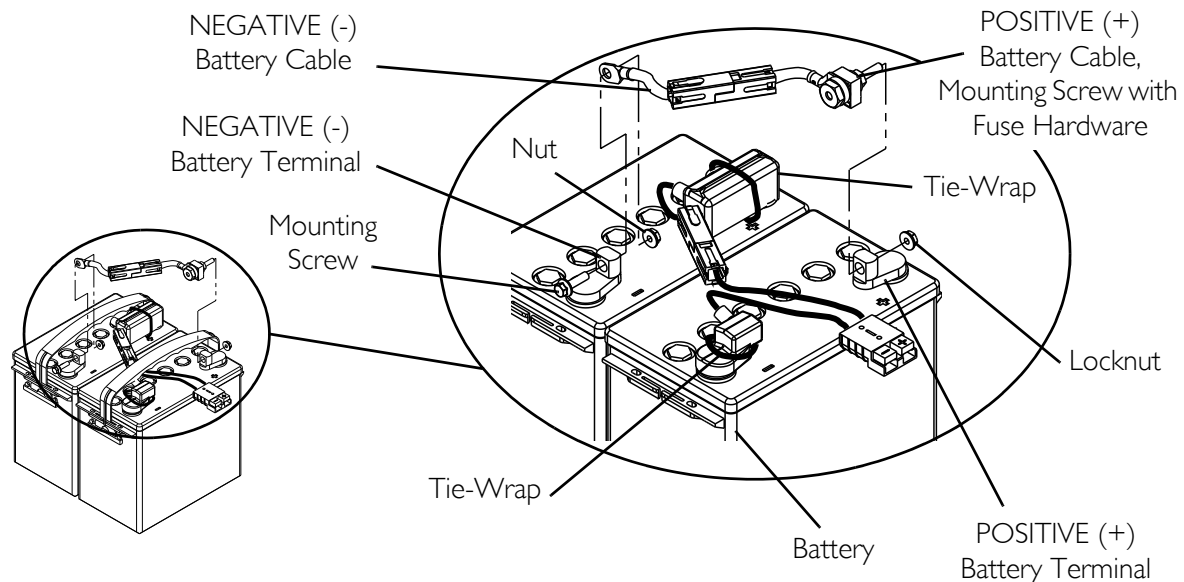

FIGURE 9.3 Connecting/Disconnecting the Battery Wiring Harness
When connecting the battery cables to the battery(ies), the battery cable(s) **MUST** be connected to the battery terminal(s)/post(s) as shown in **FIGURE 9.3** otherwise damage to the battery may result.
NOTE: For this procedure, refer to FIGURE 9.3 on page 61.
3. Using the mounting screws and nuts, secure the NEGATIVE (-) BLACK battery cable to NEGATIVE (-) battery terminal/post as shown in FIGURE 9.3.
4. Using the mounting screws and nuts, secure the POSITIVE (+) RED battery cable to POSITIVE (+) battery terminal/post as shown in FIGURE 9.3.
8. Using new tie-wraps, secure the terminal covers to the battery terminals as shown in FIGURE 9.3.
4. Remove the mounting screws and nuts that secure the POSITIVE (+) RED battery cable to the POSITIVE (+) battery terminal/post as shown in FIGURE 9.3.
5. Remove the mounting screws and nuts that secure the NEGATIVE (-) BLACK battery cable to the NEGATIVE (-) battery terminal/post as shown in FIGURE 9.3.